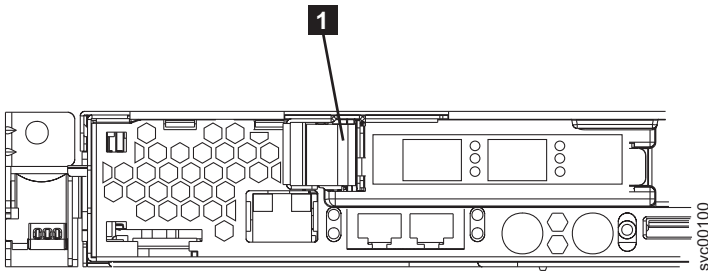

Figure 178. SAN Volume Controller 2145-8F2 or SAN Volume Controller 2145-8F4 PCI slot 1 card retainer
- a. Pull the blue PCI card retainer **1** from the rear of the node, shown in Figure 178 on page 184.